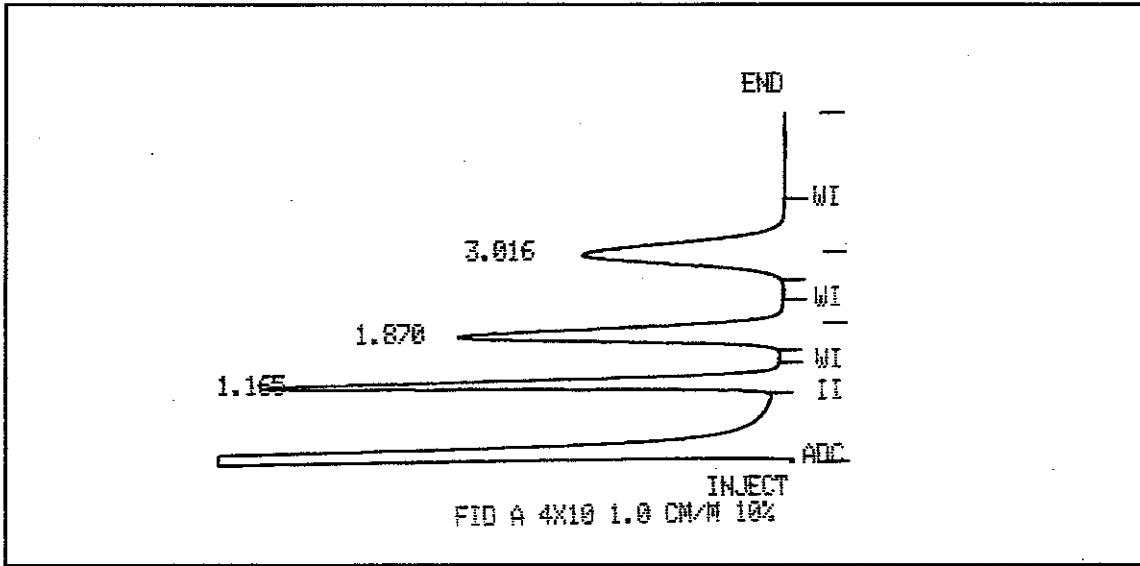

Figure 15a Packed Column (FID)
6. Compare the test chromatogram for peak separation, peak heights, and retention times with the chromatogram in Figures 15a-15c.